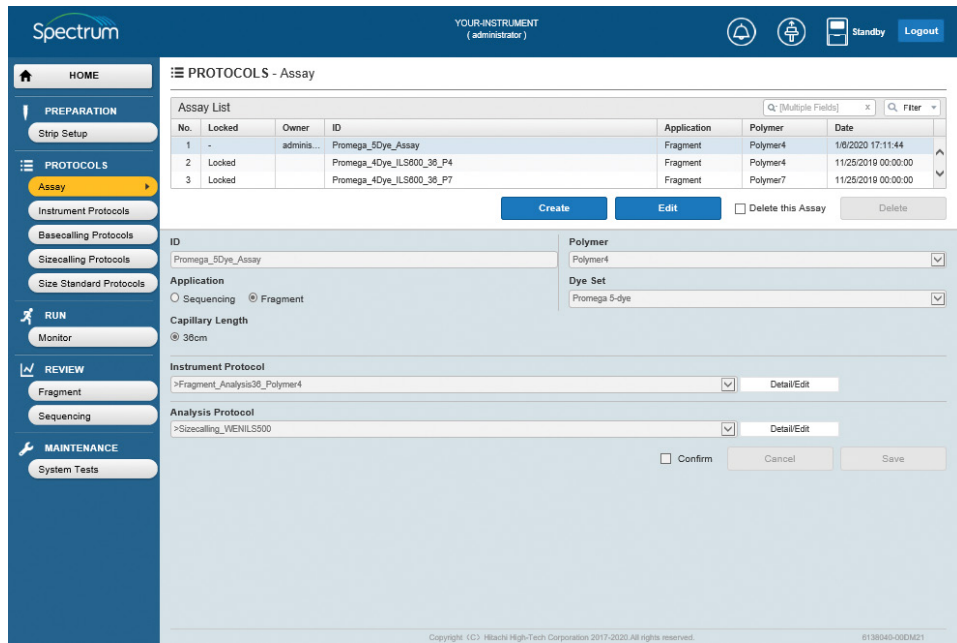

Figure 81. 'Assay' screen with active Edit button.
- Select the Assay ID in the Assay List to edit. This will activate **Edit** (Figure 81).
1. Select **Assay** under PROTOCOLS from the Main Menu of the 'HOME' screen (Figure 12) and then select the Assay ID in the Assay List that you want to delete (Figure 81).
2. Check the "Delete this Assay" box and select **Delete** (Figure 81).